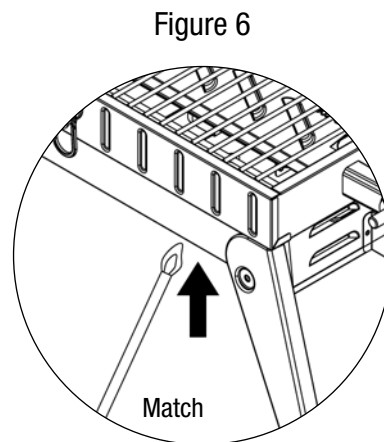

Figure 6
7. If igniter does not light burner, use a lit match to light burner manually. Access the burner through the hole in bottom bowl or side as indicated (Figure 6). Turn the regulator/control knob to  (LOW) and position the lit match near side of the burner.